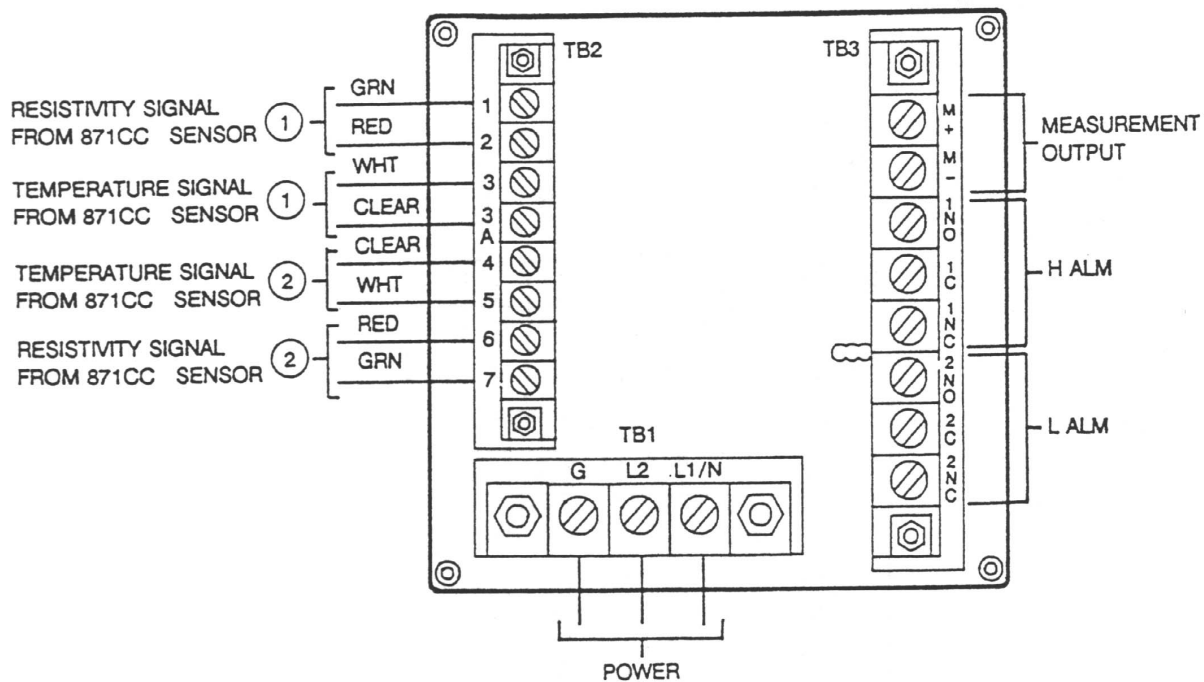

Figure 8. Rear Panel Wiring - Plastic Enclosure
2. Connect Hi and Lo alarm wires to TB3 as shown in Figure 8. Fail-safe operation requires connections be made between NC and C and the alarms to be configured active. Refer to “General Information Alarms”.
3. Connect wires from external circuit for analyzer measurement output to terminals TB3-1(+) and TB3-2(-). Refer to Figure 8.
5. Connect sensor wires to analyzer terminal block (TB2) in accordance with Figure 8. If a single sensor is used with this analyzer, it may be wired to either sensor input. See “User Notes” on page 79 for help with configuring the 873 Analyzer for single or dual sensor use.
6. Connect power wires to terminal block TB1 as shown in Figure 8.